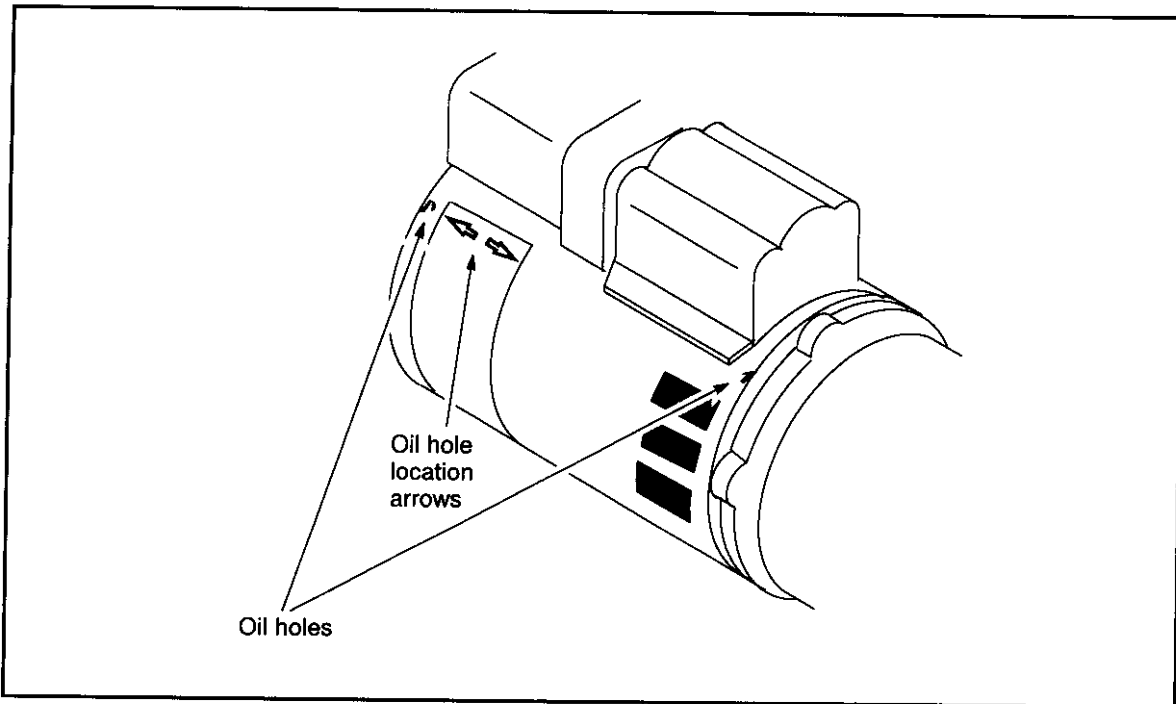

Figure 31. Cooling Pump Oil Hole Locations.
- c. On the cooling pump, locate the oil holes by observing an alignment arrow on the label attached to the body of the pump. Refer to Figure 31 for location of the oil holes.